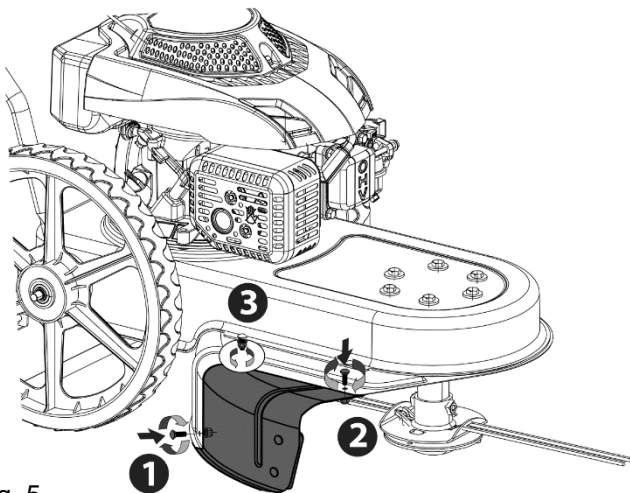

Fig. 5
2. Align the holes on the housing and the protective shield. Insert the screws (AA) into the holes, tighten them with a screwdriver. See Fig. 5.